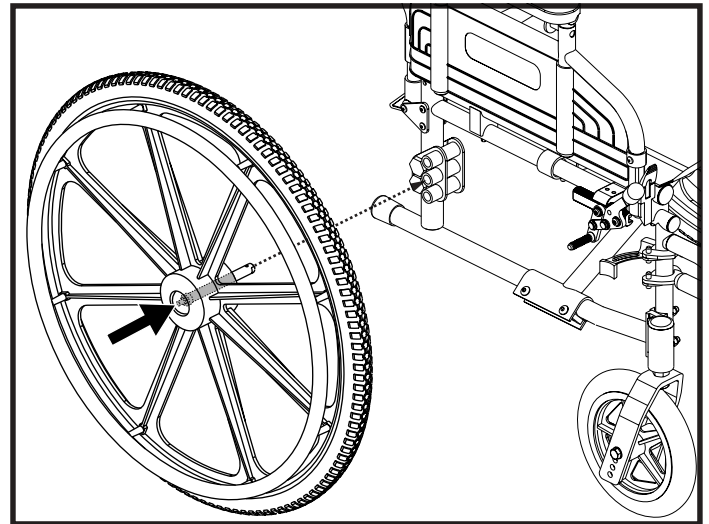
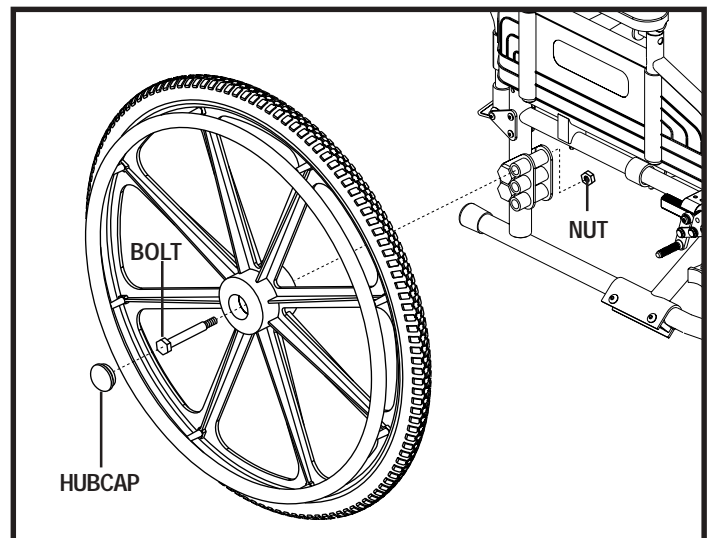

Figure 11. Quick Release Drive Wheel
Figure 12. Bolt-on Drive Wheel
1. Remove the drive wheel. If your wheelchair is equipped with a quick-release drive wheel, press the quick-release button and pull the drive wheel off. See figure 11. If your wheelchair is equipped with a bolt-on drive wheel, remove the hubcap, and then remove the nut and bolt. See figure 12.